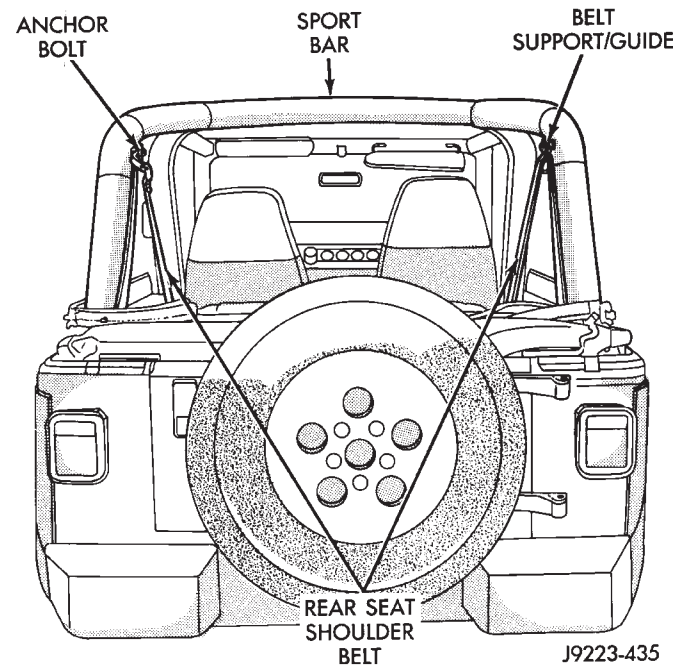

Fig. 23 Rear Shoulder Belts
(1) Remove the shoulder belt buckle anchor bolt from the rear floor panel.
(2) Remove the shoulder belt buckle from the rear floor panel.
(3) Remove the shoulder belt upper anchor bolt, washer and support/guide from the sport bar (Fig. 23).